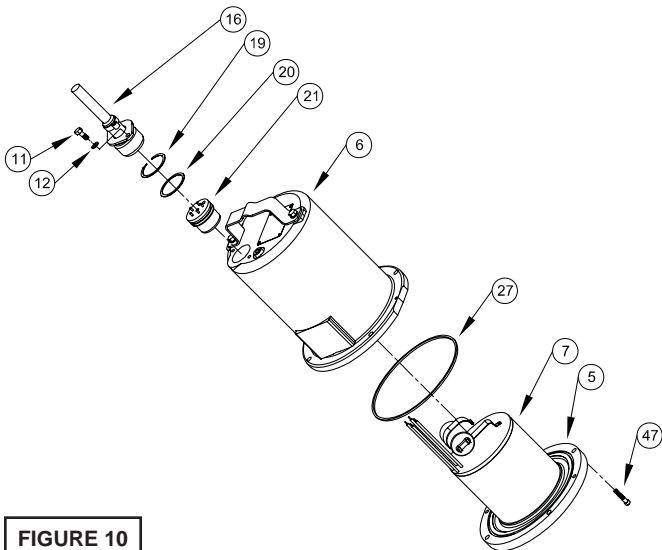

FIGURE 10
Position unit upright, using blocks to avoid resting unit on shaft. Unscrew cable hex bolts (11) and remove compression flange (16a) and power cord (16). Remove snap ring (19) with a flat head screwdriver. Pull the terminal block (21) out of the housing (6) using a T-bolt or a pair of pliers and a .25-20 screw in the threads of the terminal block (21). Be sure to leave slack on the motor leads connected underneath. Use needle nose pliers to pull each female connector off of the pins on the underside of the terminal block (21), see Figure 10.